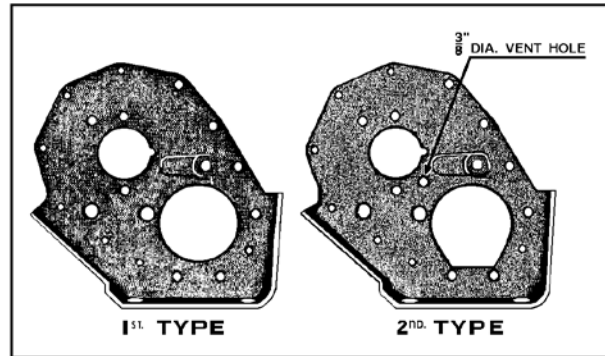

Fig. 3
3. A revised type Engine support Plate ("FE"), Part No. 7412006, and gasket, Part No. 7412002, and support plate ("FJ"), Part No. 7412004, and gasket, Part No. 7412003, introduced to suit venting and re-located holes (see Figs. 3 and 4).